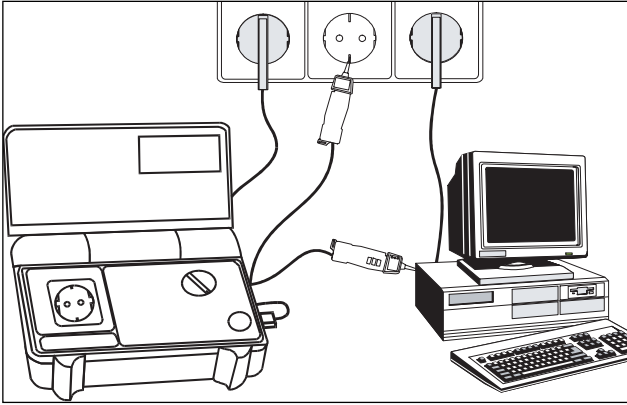

Fig. 7.10a
- Connect test probes of COMMANDER 2 (with measurement accessories, if required) to UUT, as shown in figure 7.10a: